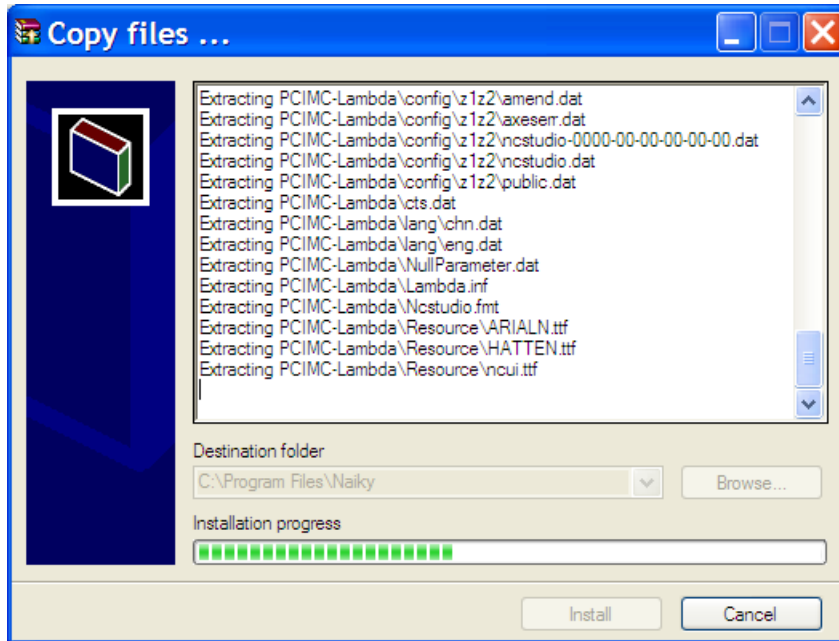
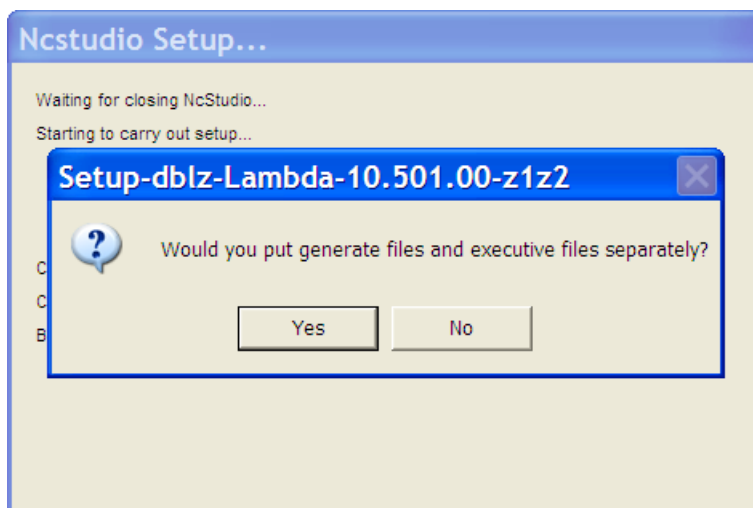
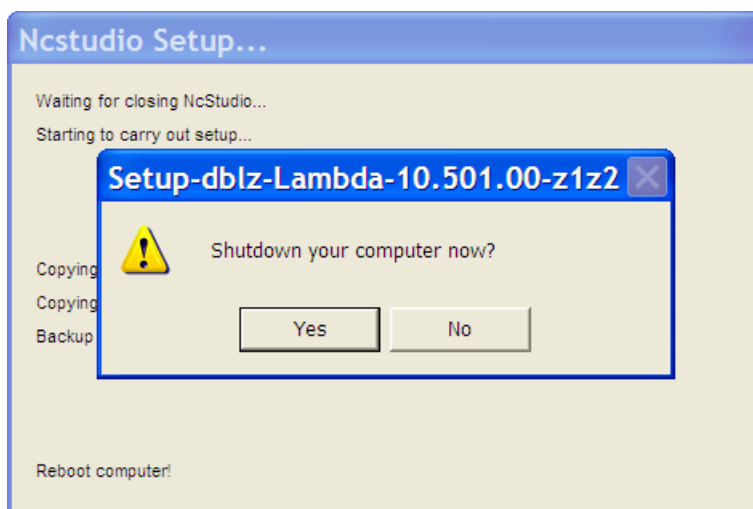

Fig. 2-4 Installing
Fig. 2-5 Prompt for file location ([NO] is recommended)
Fig. 2-6 Prompt to shut down the computer ([Yes] is recommended)
- 5) Installation begins. The NcStudio system will be installed in the directory *C:\Program Files\Waiky* by default. Progressing picture is as shown in Fig. 2-4. With that, a dialog will appear to prompt the user to decide whether to put the generated files and the executive files together or separately, see Fig. 2-5. [No] is recommended here. The next dialog to appear is prompting shutdown of the computer for convenience of communication card installation, and [Yes] is recommended, see Fig. 2-6.